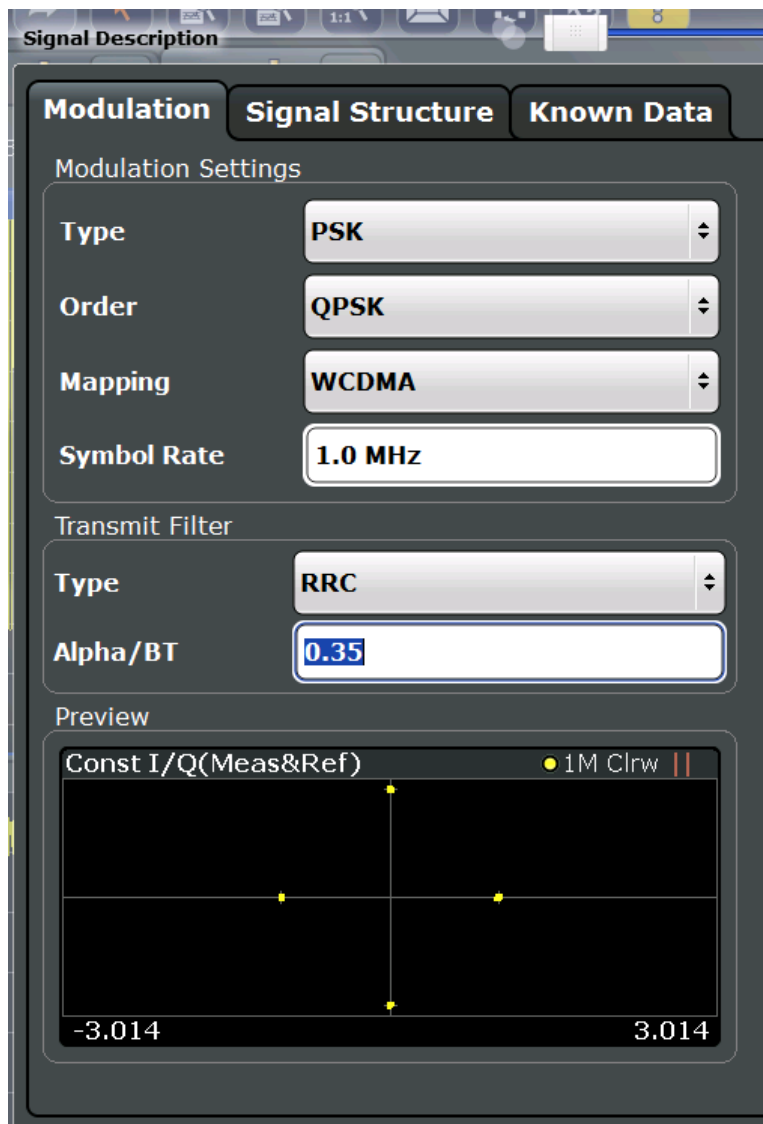

Fig. 9-2: QPSK signal with RRC transmit filter
- c) In the "Transmit Filter" section, select "RRC" as "Type" and enter the "Alpha/BT" value 0.35. In the preview area of the dialog you should then see a non-distorted QPSK constellation diagram, as shown in figure 9-2.